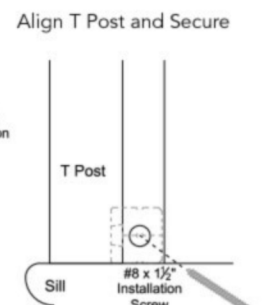

Fig. 8.4
- The screw will then pass between the (2) T Post Blocks, thus locking the T Post into position. (See Fig. 8.4)